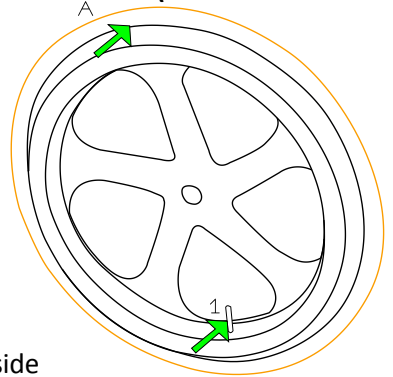

Figure 4.16
- Locate the valve and the side opposite it (Fig 4.16, A).